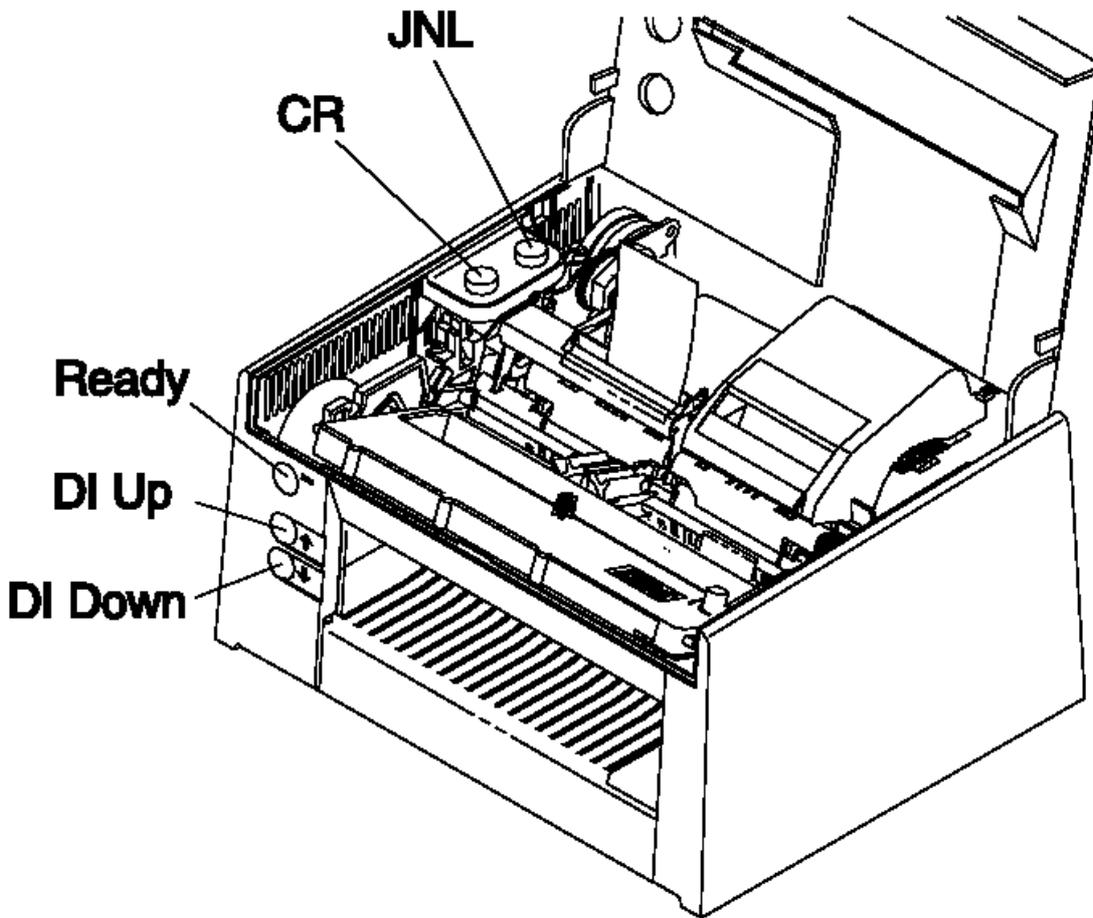

Figure 6-9. Printer Buttons
- Press the CR button. See Figure 6-9. The voltage should drop to less than +0.5 V DC.